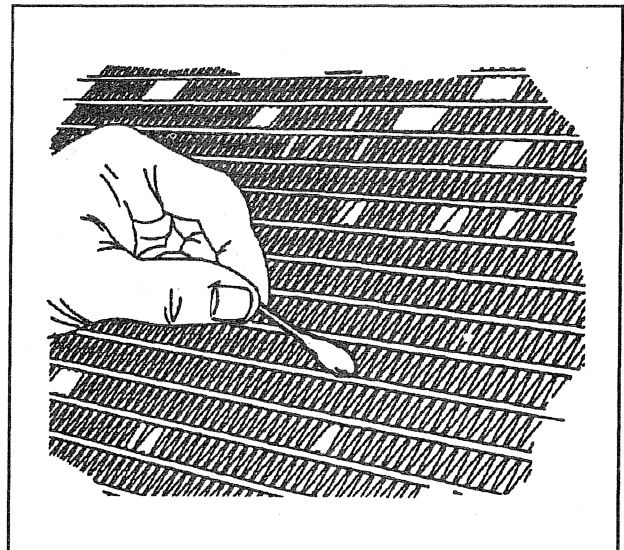

Figure 19—Scrubbing the Area with a Cotton Swab
6. Scrub the repair area with a cotton swab until a fresh swab stays clean (figure 19). The clear, yellow-brown coating does not have to be removed.